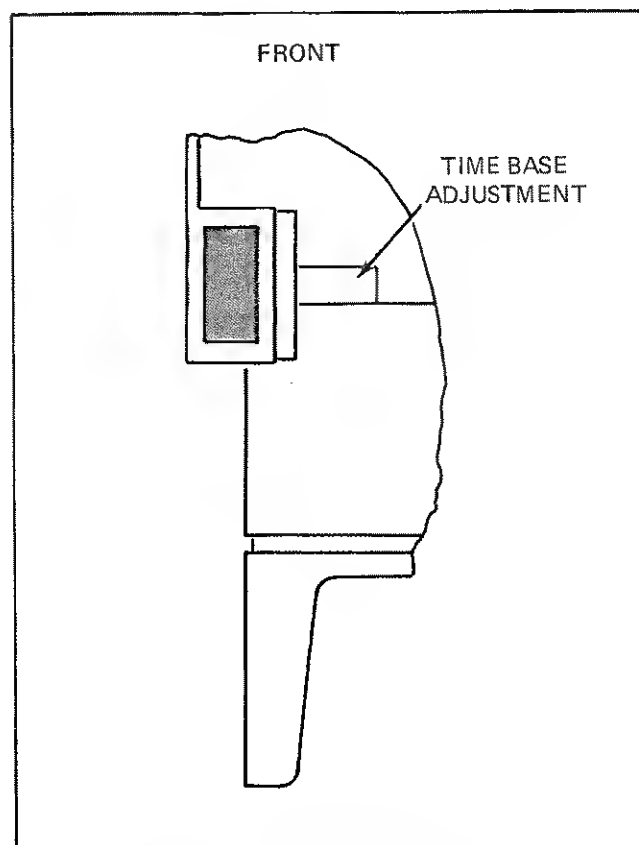

Figure 4-5. Time Base Adjustment
4. If necessary, adjust the time base for a displayed reading of 50000.000 kHz (± 1 count). This adjustment is accessed through a hole in the left rear of the bottom case half (see Figure 4-5). Use JFD 5284 (or equivalent) non-ferrous adjustment tool. If installed at the rear of the bottom case half, the bail will have to be removed to allow access.
5. Once optimum adjustment has been attained in Step (4), the RESOLUTION control can be placed to 0.1 Hz; adjustment can now be made toward a displayed reading of 000.0000 kHz. The OVFL LED will be on during this procedure. Since the gate time in this setting is 10s, the effect of each fine adjustment will not be immediately noticed.